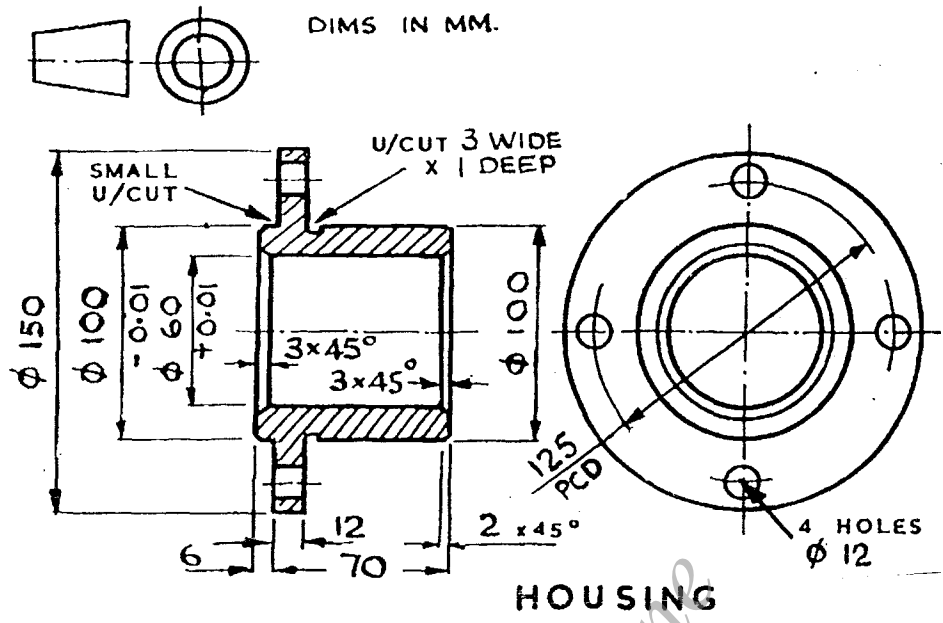

Fig. 1.
Q.6 Prepare the detailed process plan for the component shown in figure 1. Process plan should consists of process sheet, operation description sheets containing suitable cutting speed and feed rates and process pictures. **(10)**